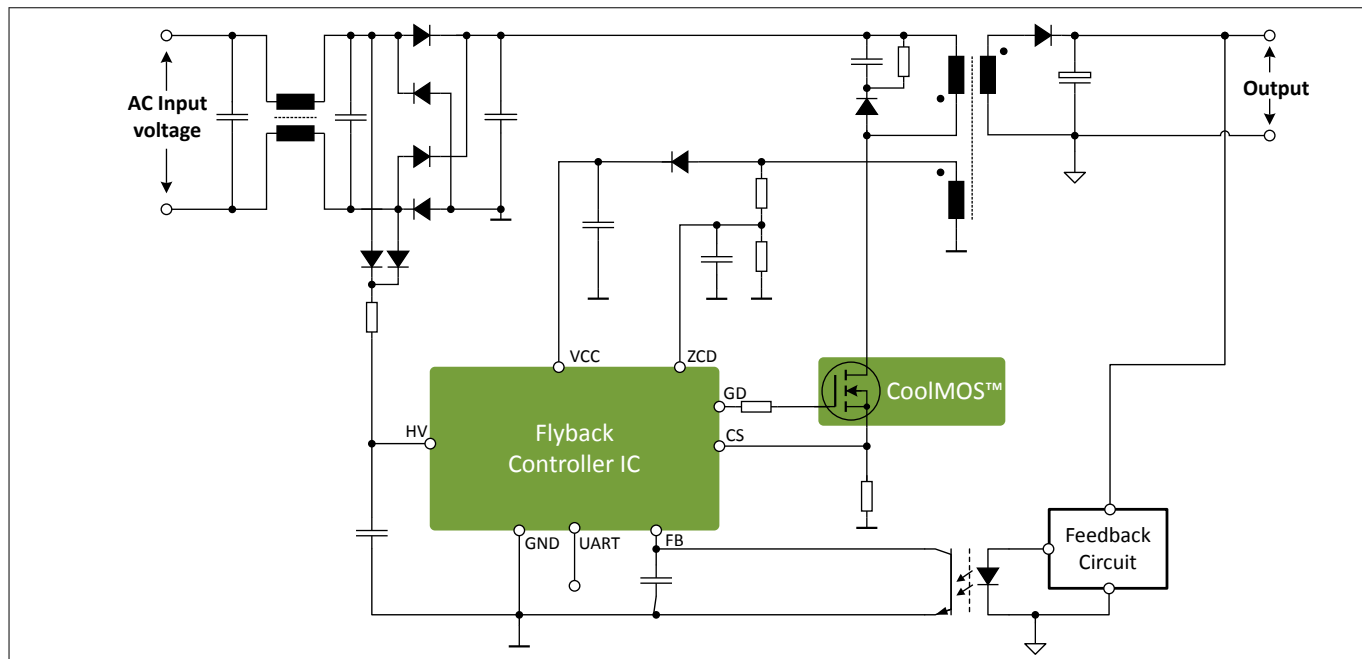

Figure 1 Typical Application for XDPL8219
*Note: The **SSR CV** output in **Figure 1** should not be used to directly drive the LEDs. For LED lighting application, it should be converted to constant current output by a second-stage DC-DC switching or linear regulator.*